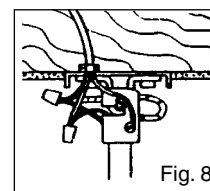

Fig. 8
- A.** Connect black electrical supply lead to the black motor lead and the black with white stripe motor lead. (See Note.) Connect the white electrical supply lead to the white motor lead. Connect the ground wire to green screw on side of hanger bracket. See Figure 8.